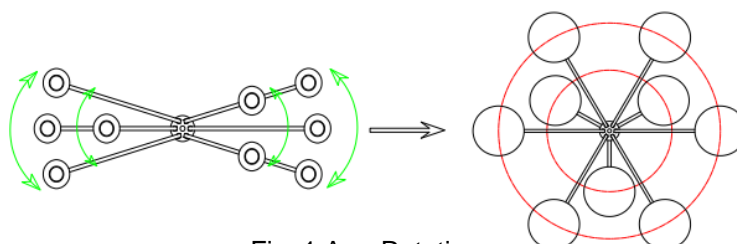

Fig. 1 Arm Rotation
2. Expand the lamp arms around the body of the fitting, ensuring they are evenly spaced around the centre. (Fig. 1) The lower arms are then fixed in place with the fixing plate (P), which is secured using the decorative nut (Q)